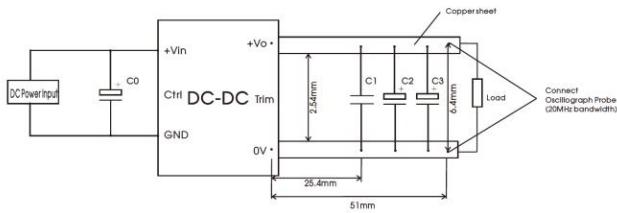

Fig.1
①The Ctrl pin voltage is referenced to input GND.
②The "Tip and barrel method" is used for ripple and noise test, for details please refer to Fig.1.
③If the product is used at an altitude above 2000m, it is necessary to ensure that the surface temperature of the product is lower than 130°C.
All the DC-DC converters of this series are tested before delivery using the recommended circuit shown in Fig. 1.